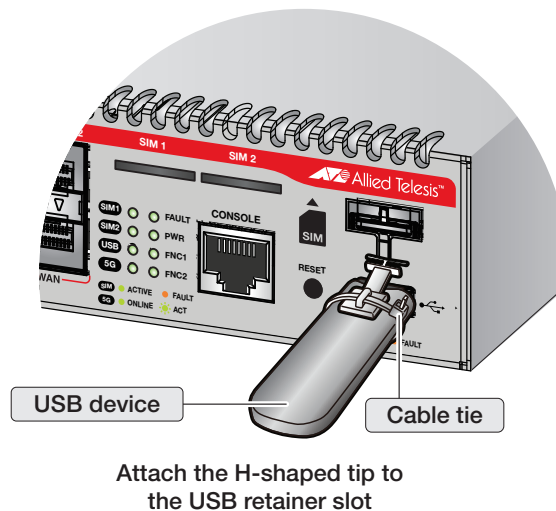

Figure 16. Attaching the USB retainer
2. Mount the USB device into the USB port and then attach the H-shaped tip of the USB retainer to the USB retainer slot as shown in Figure 16.